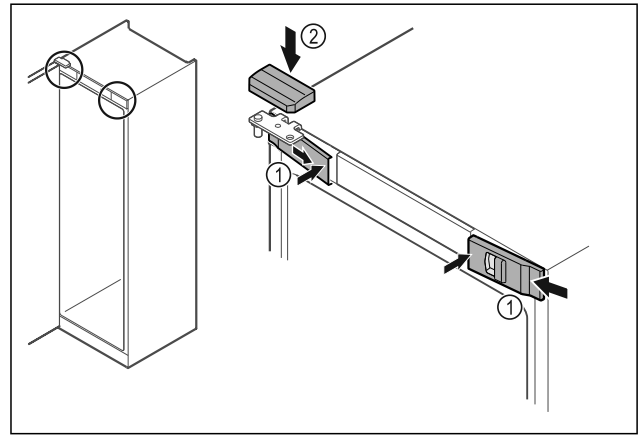

Fig. 47
- Hook in the front covers Fig. 47 (1) on the side and snap them into place on the inside.
- Snap on the top cover Fig. 47 (2) from above.